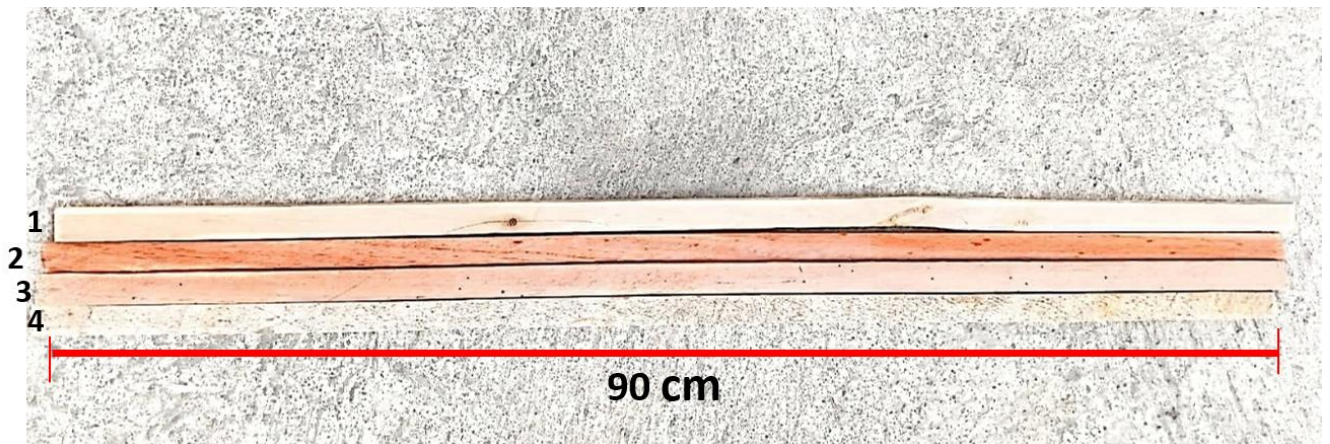

Figure 1: Wooden sticks to serve as columns
1.- With the help of an adult, measure and cut 4 sticks of 90 cm which will serve as the general support. (Figure 1).